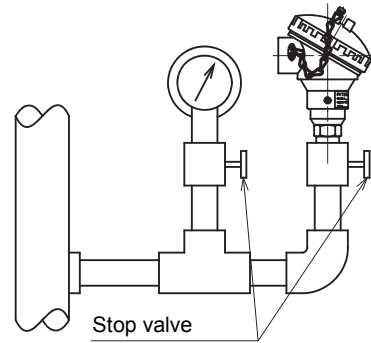

Figure 6 Installation (attached to pipe)
- To install the transmitter to a pipe, install it with a pressure gauge as shown in Figure 6.